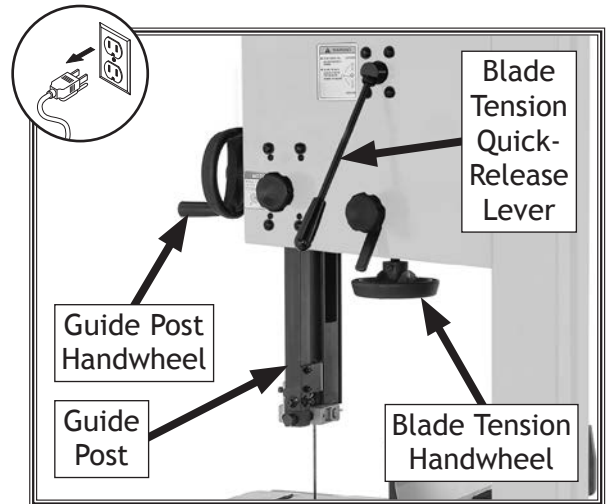
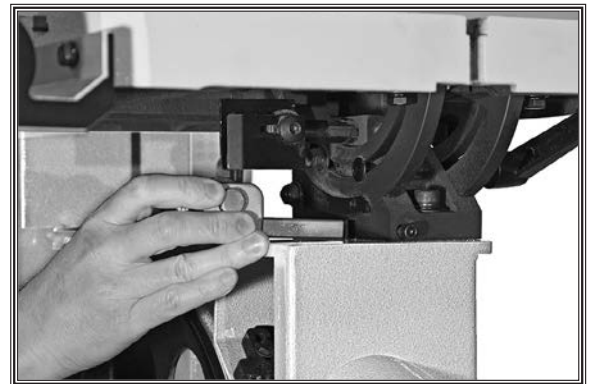

Figure 39. Blade tensioning controls.
Figure 40. Location of lower roller discs.
3. Use handwheel to fully raise guide post (see **Figure 39**), and move upper and lower roller-disc guides and support bearings away from blade (see **Figure 40**). Refer to **Page 33** for more information.